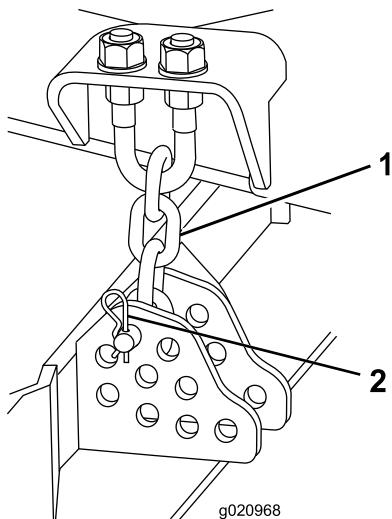

Figure 16
- Remove the hairpin cotter and clevis pin securing the height-of-cut chains to the rear of the mower deck (Figure 16).